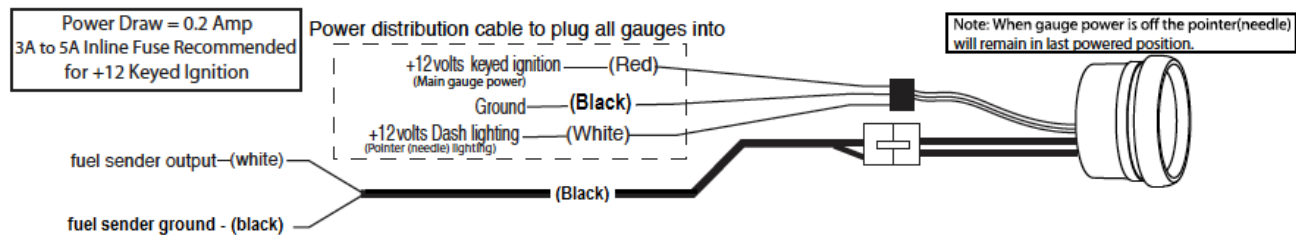

Figure 1
**Figure 1** shows gauge power, ground, & lighting wiring diagram as well as sending unit wiring. If there is no fuel sender ground, connect that wire to a chassis ground.
The fuel level gauge can be manually calibrated to any existing fuel tank sender or you can select one of the calibration presets (See **Figure 1**). Factory default setting is 240 Ohms Empty and 33 Ohms Full.
2. Press and release button to toggle between available preset resistive ohm range options (**Figure 1**). The pointer will stop to each available setting with quick button presses. At the desired ohm range, press and hold the button down for 2 seconds to save the ohm range preset. The pointer will then point to 'E' and begin displaying the current fuel level.
2. Press and release button until the needle is pointing at 'F' (**Figure 1**). Hold button down for 2 seconds, then release button. Needle will now oscillate between 'E' and 'F'. You are now in Manual Calibration mode.